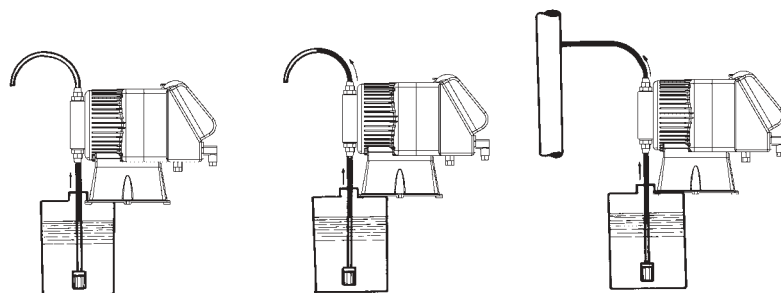

Fig. 8
- f. Priming the pump: if the pump is supplied with a discharge valve, connect the outlet piping and follow the sequence shown in fig.8.